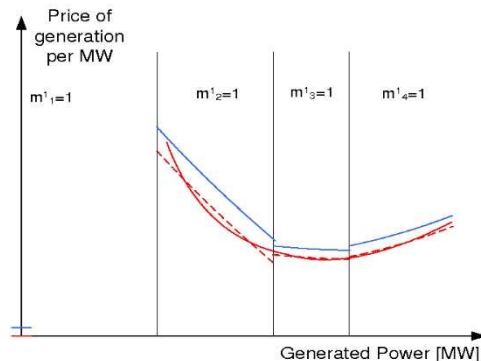

Fig. 7. Unit generation cost curve
- Optimal power dispatch based on linear decomposition (see fig.7.)